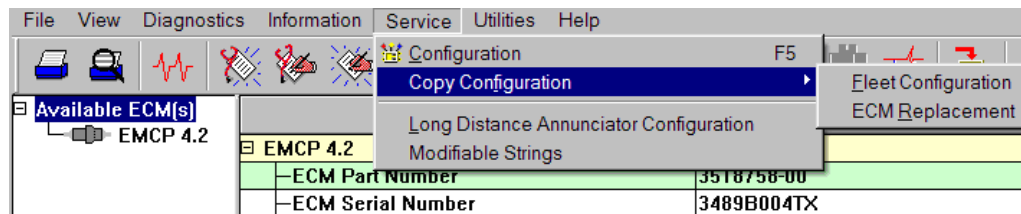

Figure 30: Cat Service Tool EMCP 4 GSC Summary Screen
After connecting to the EMCP 4, navigate to Service > Copy Configuration (see Figure 30). There are two options:
1. From the Service Tool menu, select the following: Service > Copy Configuration > ECM Replacement. See Figure 30.